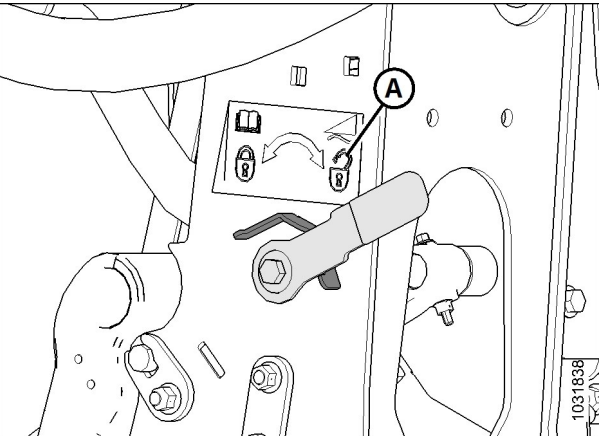

Figure 3: Float Unlocked – Left Side Shown
- b. On the side that you are adjusting, move spring handle (A) to the lower (UNLOCK) position. Keep the opposite wing locked. You should hear the lock disengage. If not, use multi-tool (B) to rotate the mechanism so that the lock disengages.
- c. On both sides of the float module, place the header float locks (shown in Figure 3) in the locked position.